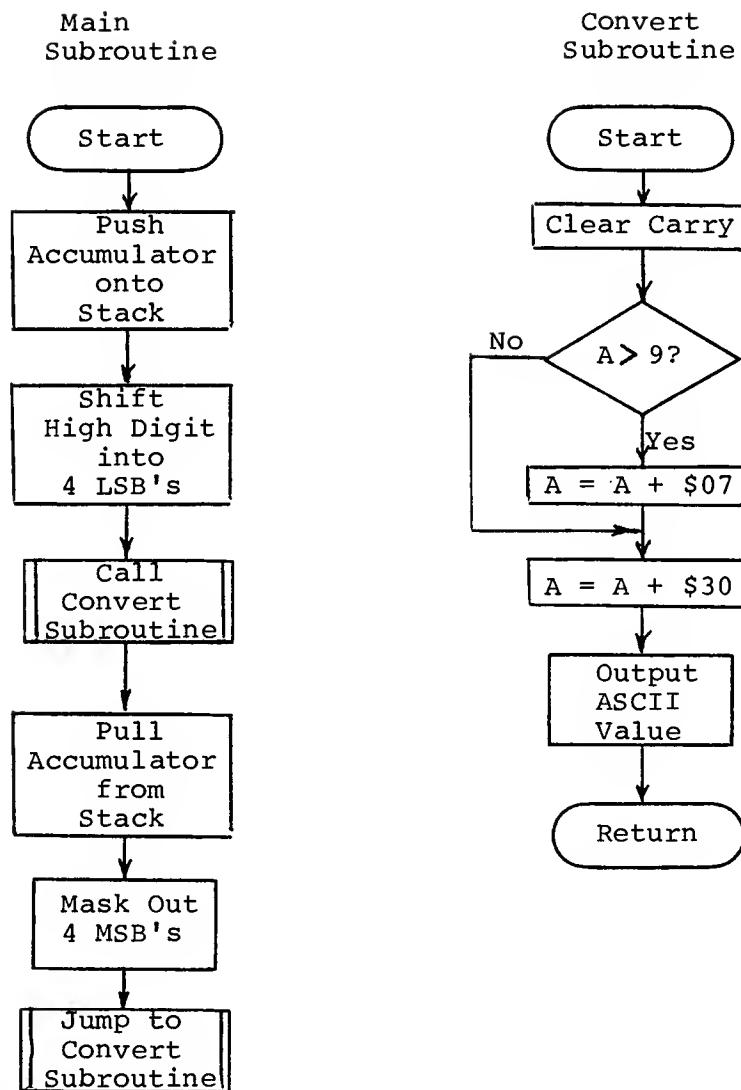

Figure 12-1. Binary to ASCII-Based Hexadecimal Subroutine
Figure 12-1 shows a flowchart for a subroutine that performs the preceding sequence of operations. Since each of the BCD digits must be converted to ASCII and output, this subroutine calls another subroutine (also shown in Figure 12-1) which performs the conversion and outputs the result. Note that the second "call" to the conversion subroutine is not a call (JSR) at all, but a jump (JMP), which eliminates the need for an RTS instruction at the end of the main subroutine. Incidentally, the AIM 65 Monitor's NUMA subroutine (entry address \$EA46) performs the same function as the subroutine in Figure 12-1, and outputs the two converted digits to the display and printer.
Since the decimal digits (0 - 9) are included in the set of hexadecimal digits (0 - 9, A - F), converting BCD values to ASCII-based decimal is similar to--but simpler than--converting binary values to ASCII-based hexadecimal. To convert BCD values, you would use the general subroutine shown in Figure 12-1, but its "convert" subroutine would always add \$30 to the Accumulator, with no need to check whether the value in the Accumulator (A) is greater than 9.